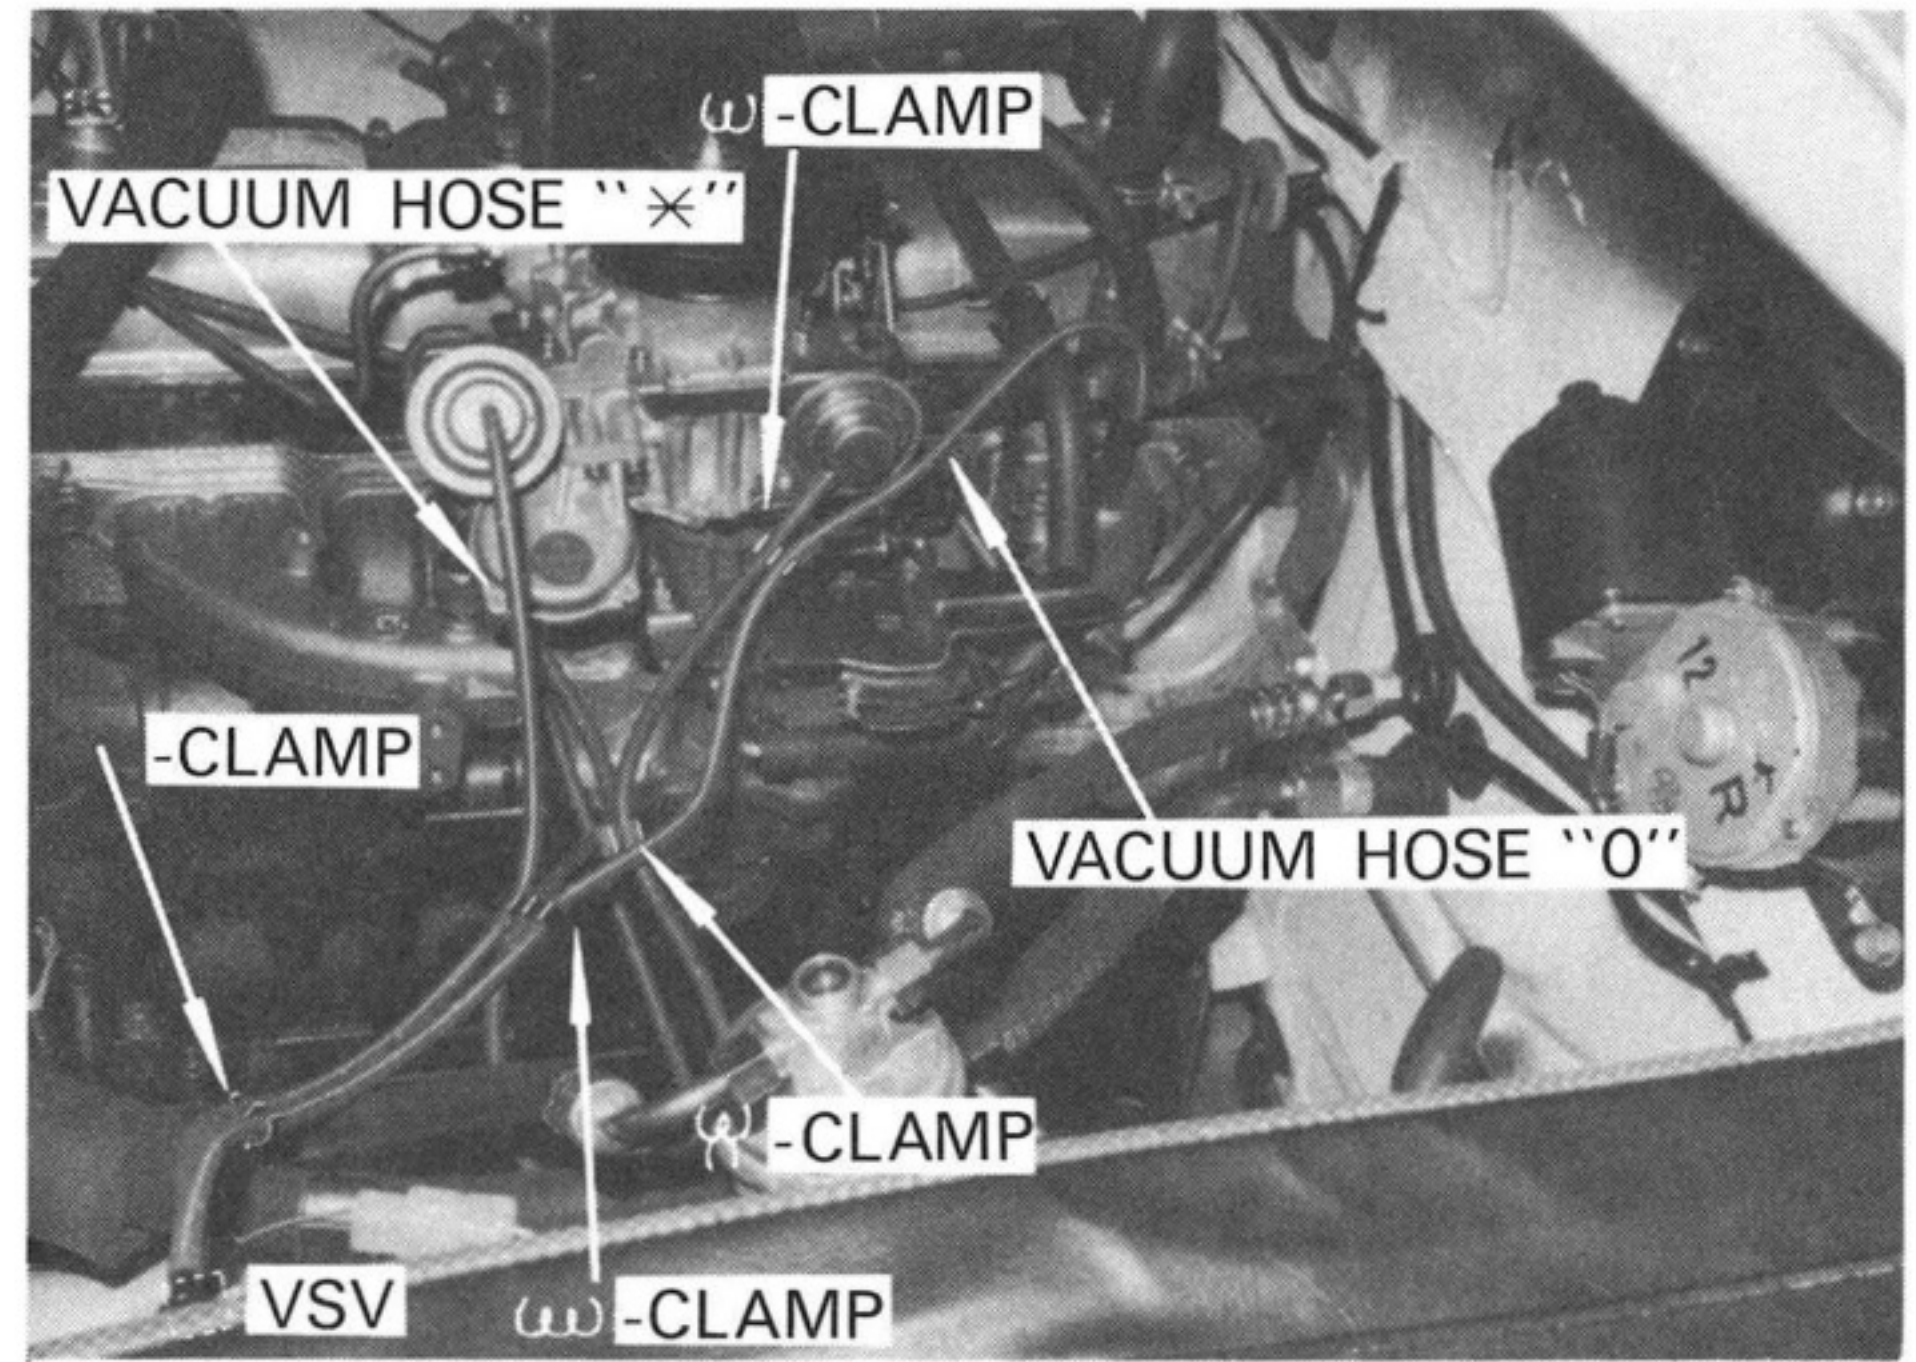

Fig. 38
- C) Fasten the vacuum hose using clamps as shown in Fig. 38.